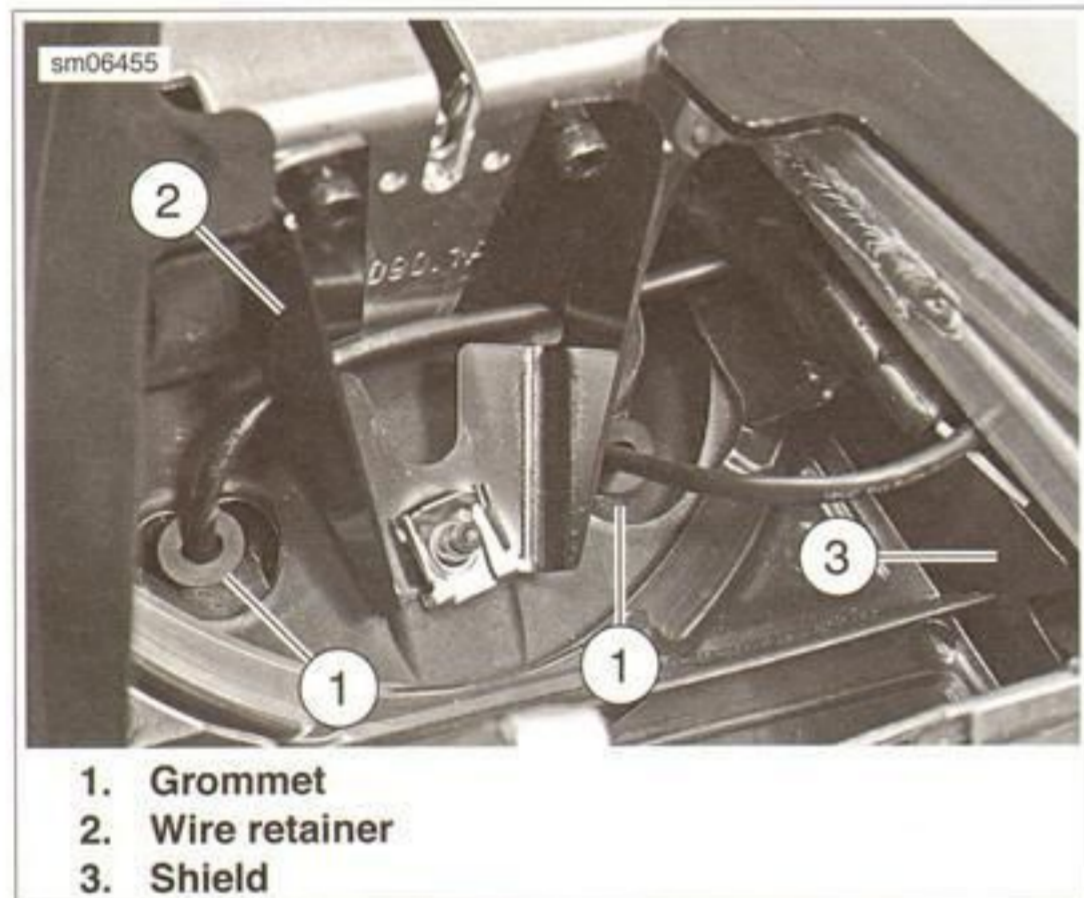
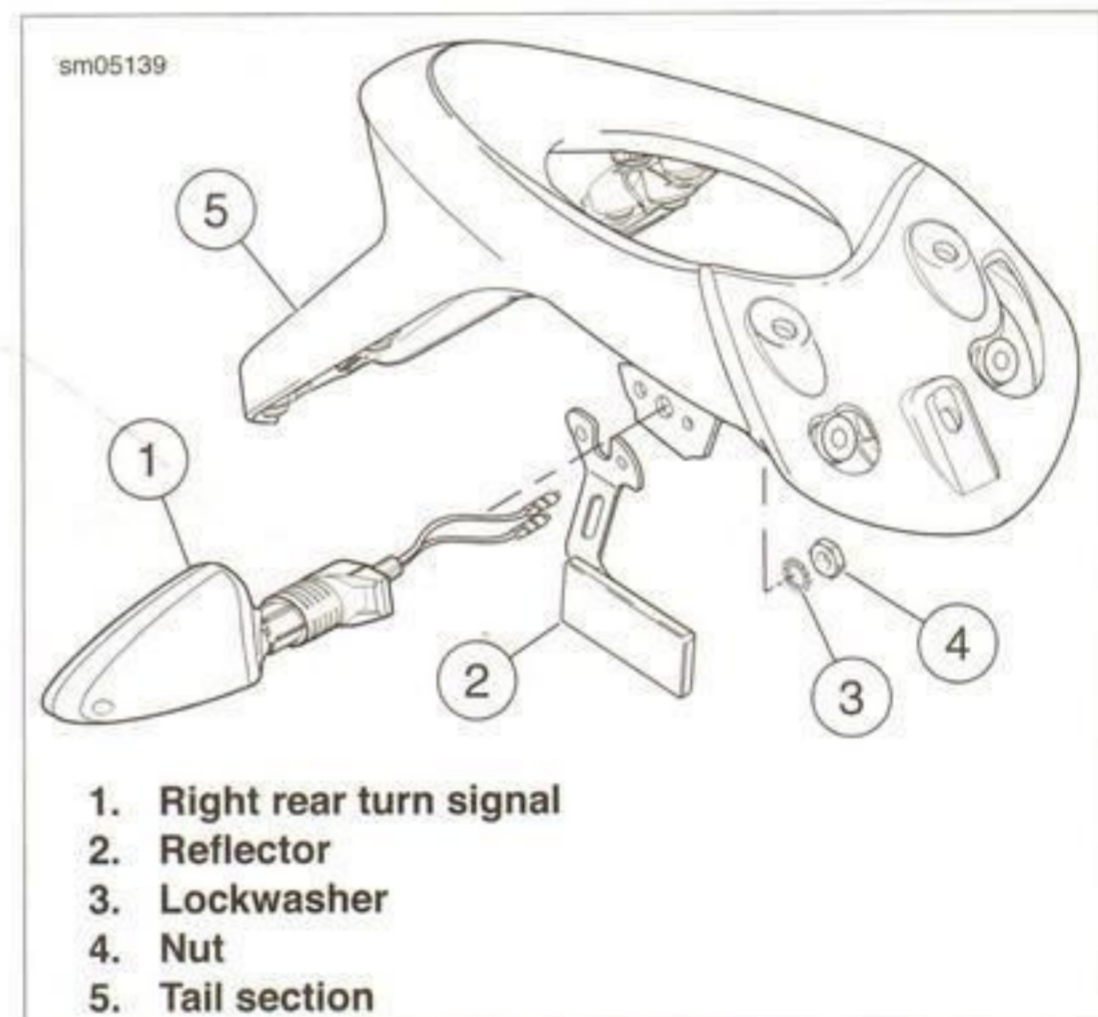

Figure 7-46. Turn Signal Wire Routing
Figure 7-47. Rear Turn Signals
See Figure 7-46. Rear turn signal and tail light wire connectors are located behind the shield (3) within the trunk.
5. Pull the wires out through the grommet (1).
6. See Figure 7-47. Remove nut (4) and lockwasher (3).
7. Remove turn signal assembly (1) from tail section (5).
1. See Figure 7-47. Insert the bullet connectors through the mounting hole in the tail section (5).
2. Loosely attach the turn signal with a lockwasher (3) and nut (4).
3. Hold the reflector (2) in place while securing turn signal.
4. Tighten nut (4) to 2.8-3.2 Nm (25-28 in-lbs).
5. See Figure 7-46. Insert the bullet connectors through grommet (1) and join the connector housings.
6. Route the right turn signal wire under the retainer (2).
7. Tuck wires behind shield (3) and connect battery.